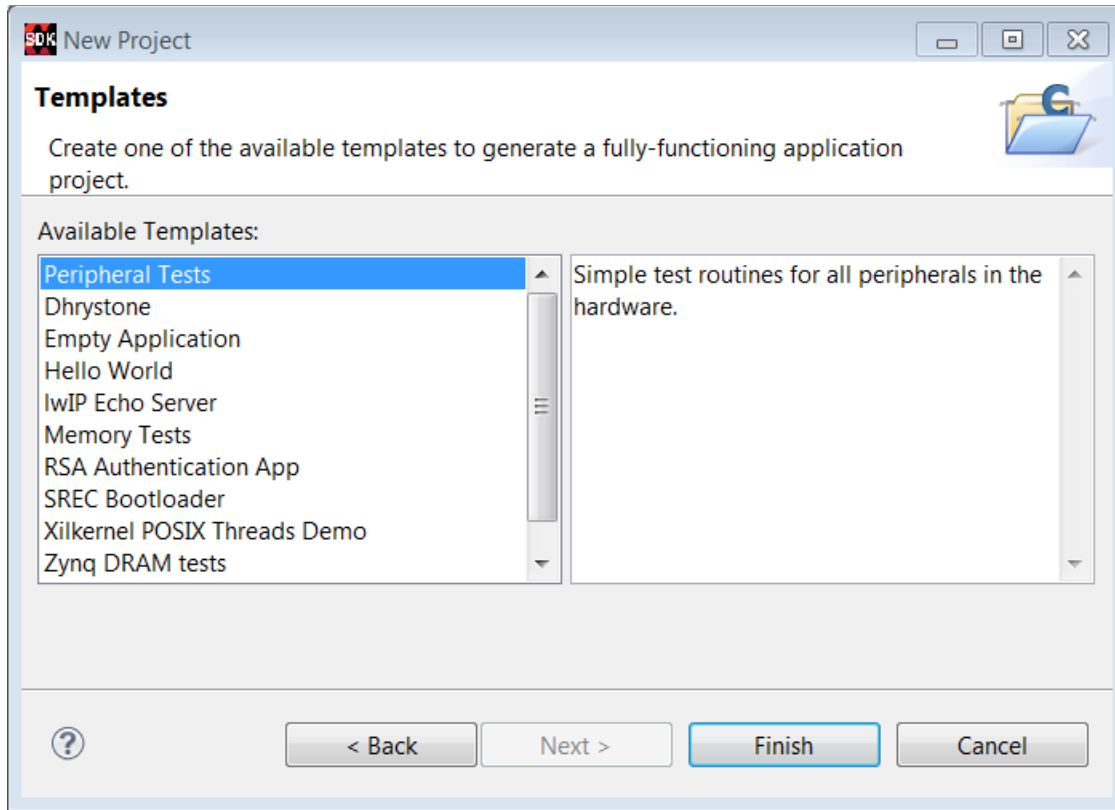

Figure 33: SDK New Project Template
6. From the Available Templates, select **Peripheral Tests** (FIGURE 33).